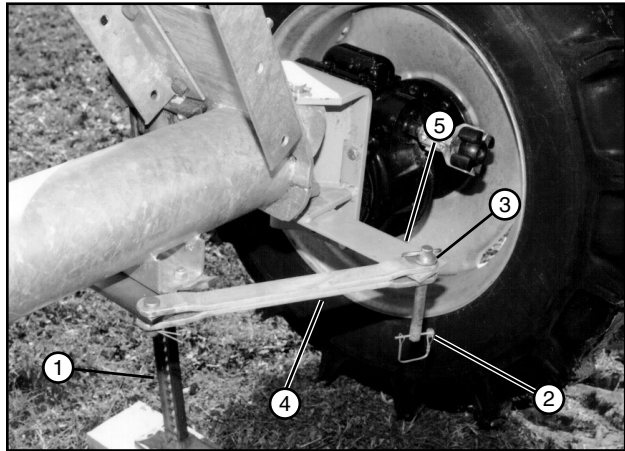

Figure 38-1 1. Jack
4. Use a jack to lift one side of the drive unit until the tire is off of the ground. See Figure 38-1.
5. Remove lynch pin from torque pin, then remove torque pin and disconnect tow link bar from steering arm. See Figure 38-1.